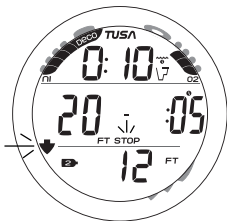

Fig. 73 - CV MAIN
**CV Main** information includes (Fig. 73) -